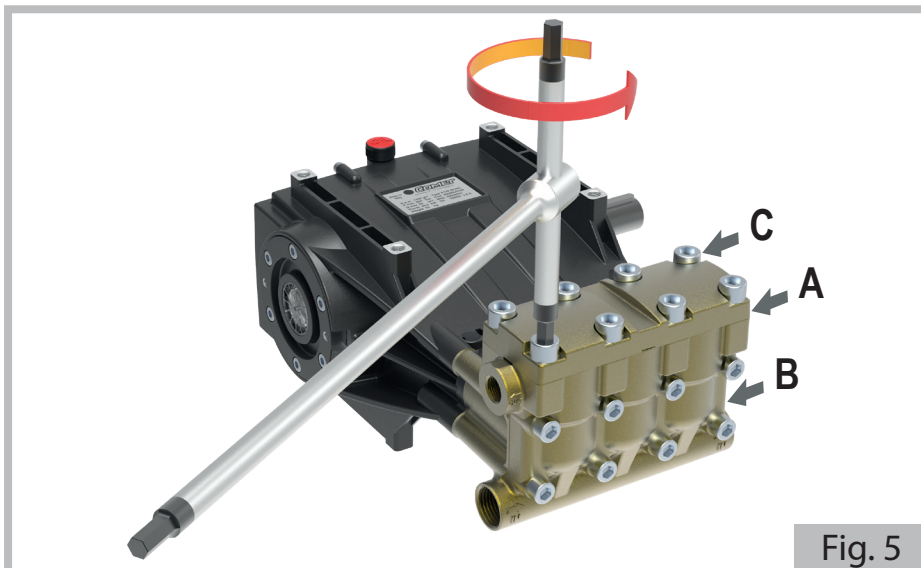

Fig. 5
- a) Remove the valve cap (A) from the head (B), by loosening the 8 screws C (see detail in figure 5) with a 12 mm Allen key.